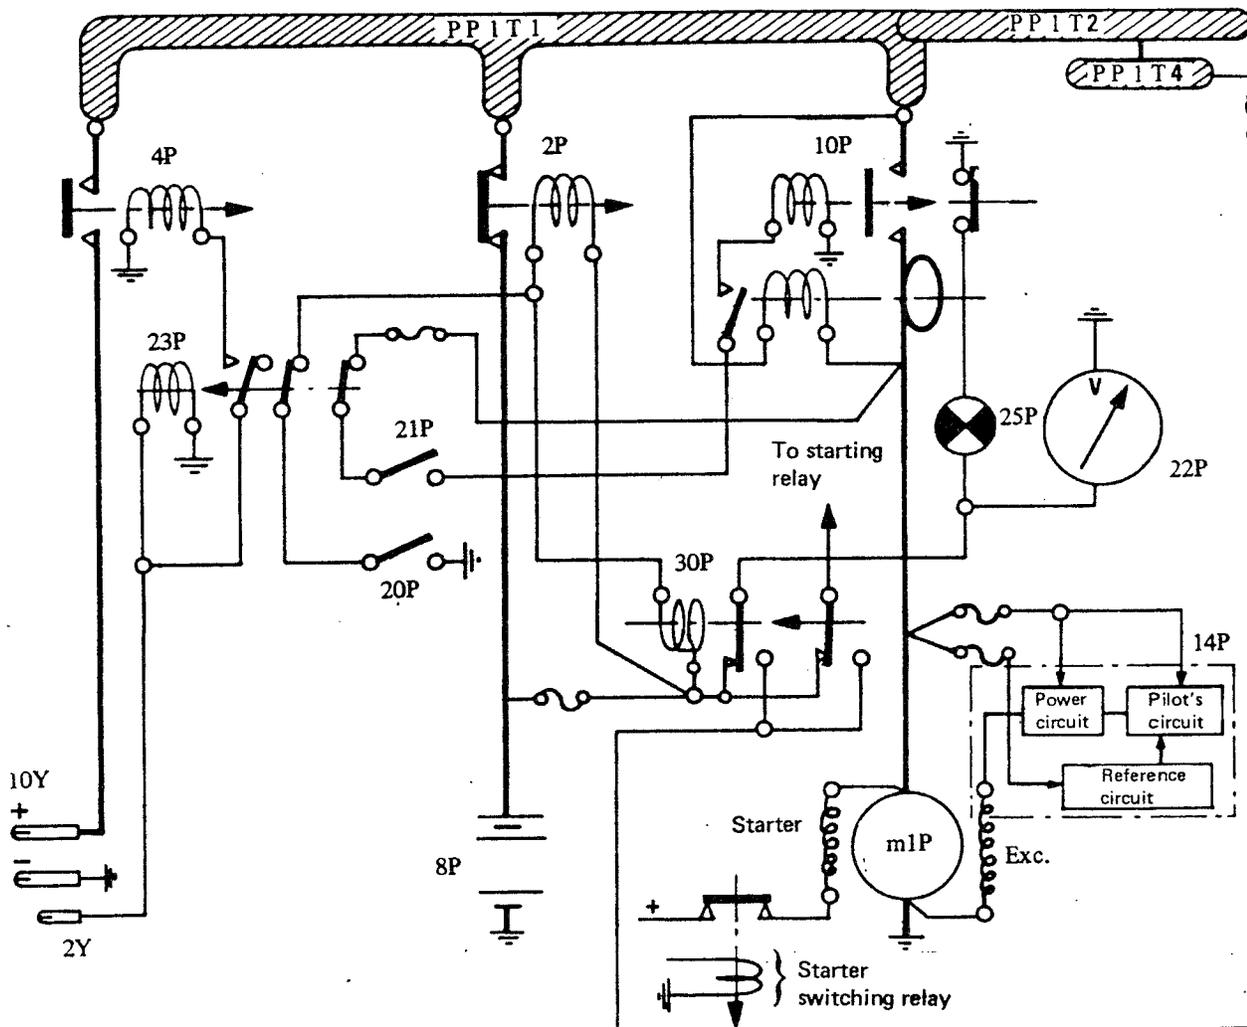

Figure 7
(2) OPERATION OF BATTERY CIRCUIT (Figure 7)